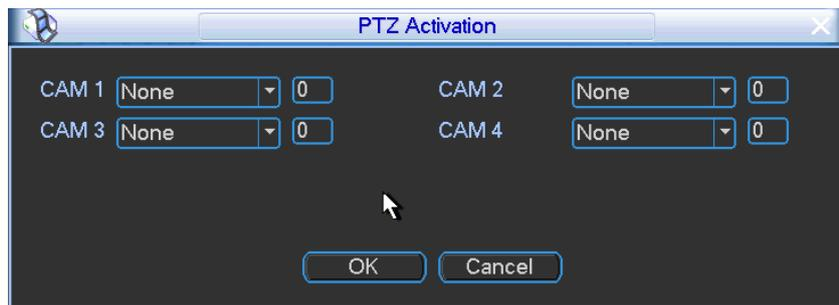

Figure 4-78
- PTZ activation: Here you can set PTZ movement when alarm occurs. You can only go to a preset when there is a motion detect alarm. Click “select” button, you can see an interface is shown as in Figure 4-78.